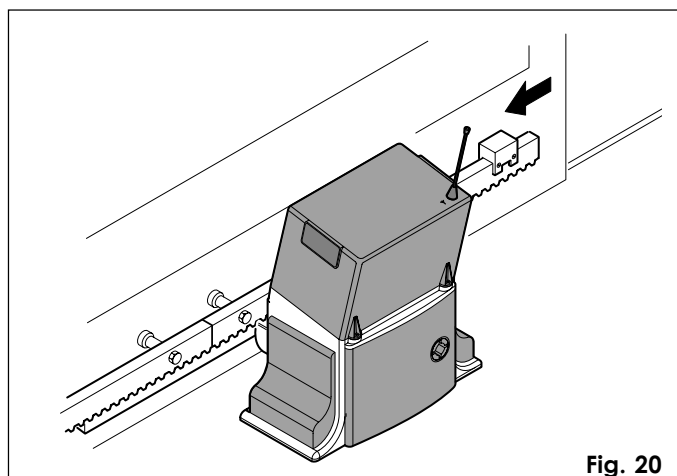

Fig. 20
- Slide the magnet on the rack (Fig. 20) until you see that LED1 on the control board goes off. Tighten the magnet's securing screws.